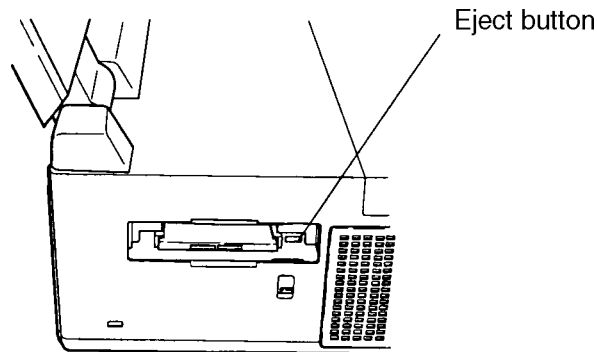

Figure 4-3 Removing the PCMCIA Card
5. Press the **eject button** to eject the PCMCIA card (Figure 4-3).